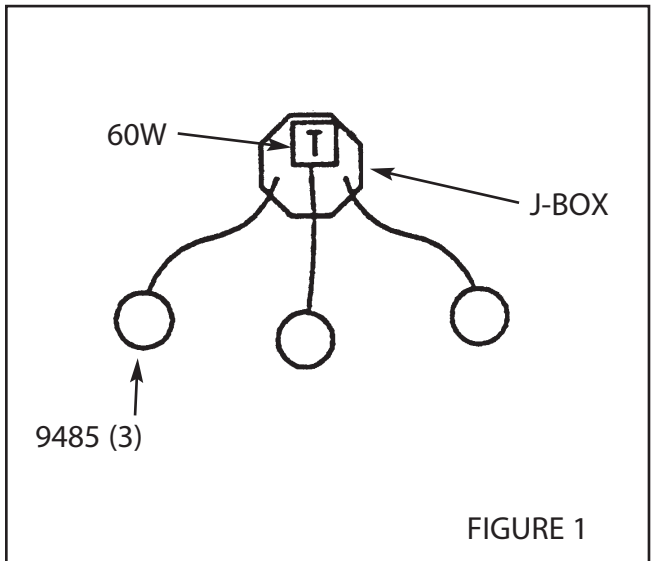

FIGURE 1
1. When using a 60w max transformer (class II) you are able to directly hook up three (3) 9485 to the junction box as in Figure 1.
2. For a run larger than three (3) disk-lights you must use a class I transformer (larger than 60w). The following example demonstrates a run of eight (8) 9485 disk-lights (8 x 16.2w each = 130w), in this case you will need to use a 150w transformer.